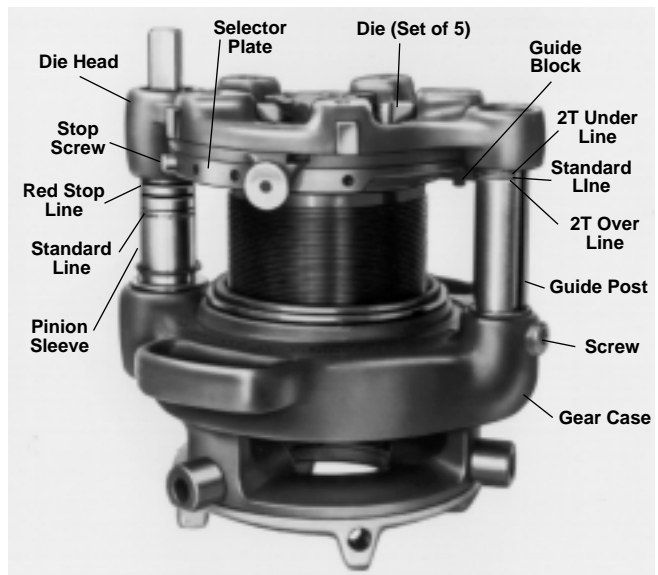

Figure 17 – No. 141 Geared Threader with 844 Drive Bar Installed (No. 161 Threader Similar)
1. Remove stop screw (*Figure 17*) from selector plate.
IMPORTANT! Allow approximately 3/4" of V-shaped grooves exposed in front of chuck jaws (*Figure 17*) to allow space for oiling.
5. 141 and 161 – Release foot switch when red STOP line appears on pinion sleeve (Figure 17).
IMPORTANT! Allow approximately $\frac{3}{4}$ " of V-shaped grooves exposed in front of chuck jaws (Figure 17) to allow space for oiling.